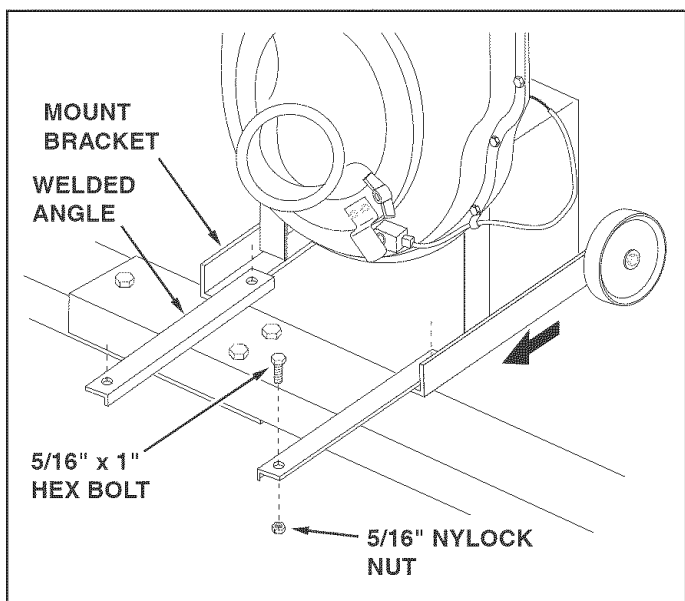

FIGURE 15
- Align the engine base with the tongue's welded angles. Tilt the engine base back on its wheels so that the ends of the mount brackets rest on the tongue, **underneath** the welded angles. Lift up on the engine base and slide the engine mount brackets **underneath** the welded angles. Fasten the mount brackets to the welded angles using four 5/16" x 1" hex bolts and 5/16" nylock nuts. **Tighten** the bolts securely. See figure 15.